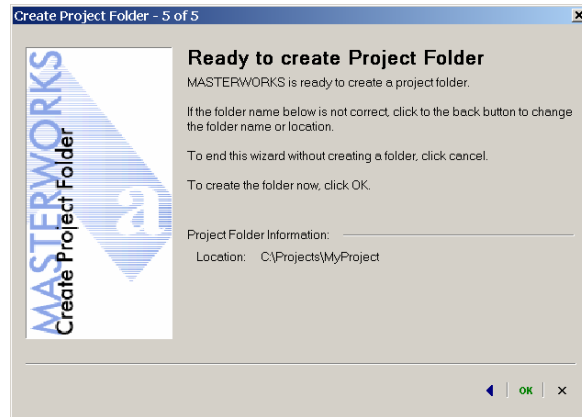

Figure 4-9 Ready to Create Project Folder Dialog
5. **Ready to Create Project Folder** dialog (Figure 4-9). Make sure that your options are set correctly and then click **OK** to accept the options. **MASTERWORKS** will generate a new project in its own folder based on your settings. Click the back arrow to go back and make any changes. Click **X** to cancel.